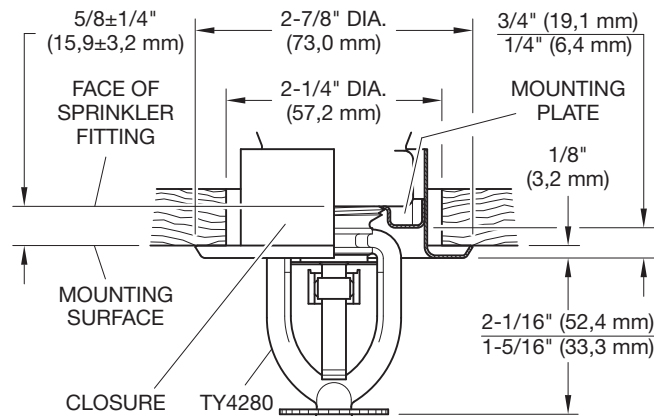

FIGURE 6
- 8.0K sprinkler, and a two-piece Style 40 (3/4 in. NPT) Recessed Escutcheon where applicable, as shown in Figure 6.